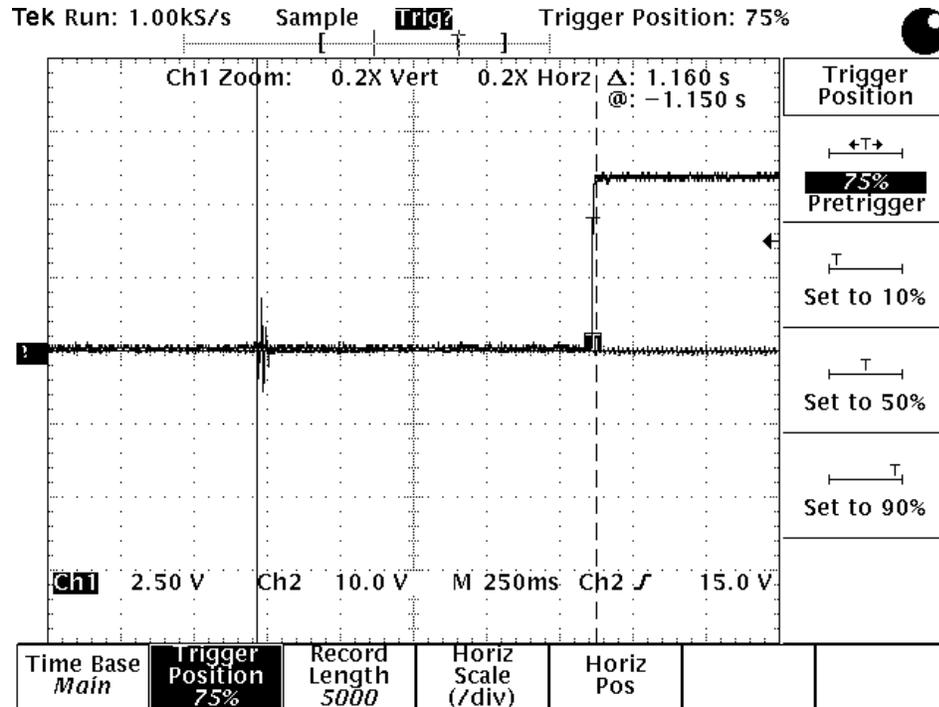

Figure 6 – Start-up Time
- 7.9.6 Find out where you are within cycle, to make sure you have zero crossing correct to within ± 1 milliseconds. Turn the AC supply “on” and measure the time from the first in-rush current impulse to the point where the DC output voltage reaches the minimum operating specification. Refer to Figure 6.